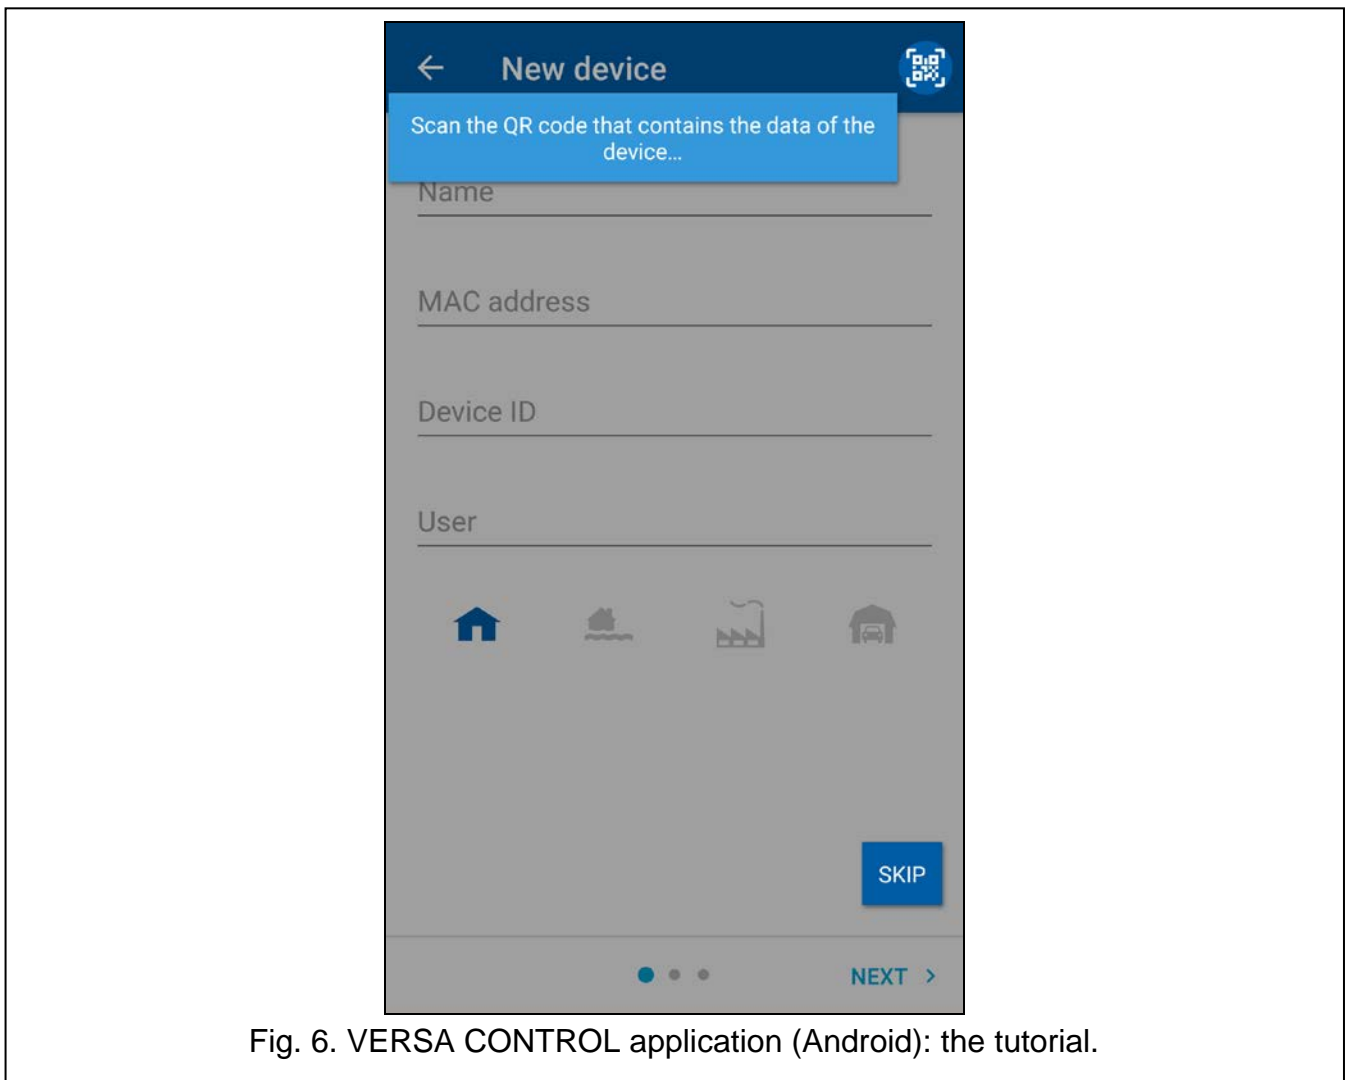

Fig. 6. VERSA CONTROL application (Android): the tutorial.
2. The tutorial will be displayed (Fig. 6). Tap “Skip” to skip it.